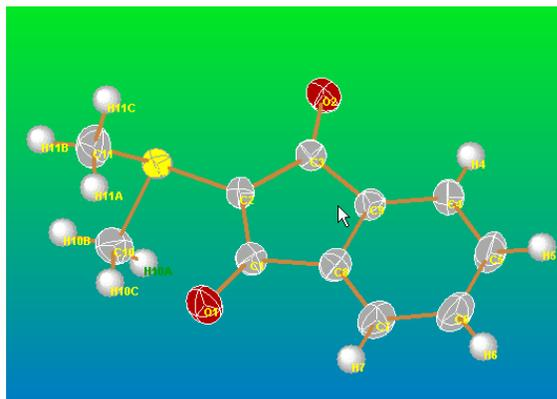

Figure 9.50 – Thermal ellipsoids with large hydrogen atoms
- If the hydrogen atoms in Figure 9.50 are large, change their sizes by going to **Preferences > Atom Preferences...** in XShell's Menu Bar.